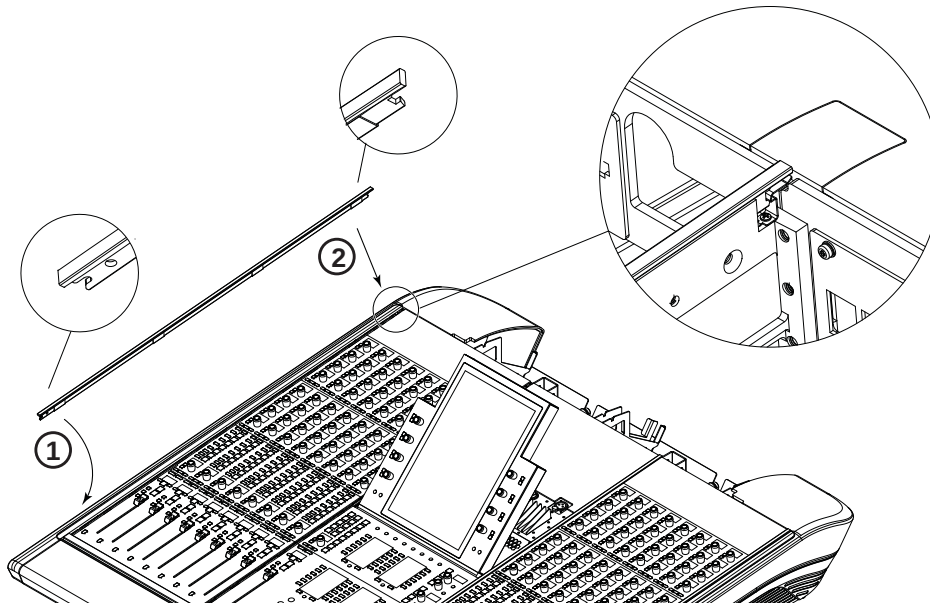

Figure 39. Installing a T-strip
- 2 Take the first T-Strip and, orienting it as shown in Figure 39, do the following: